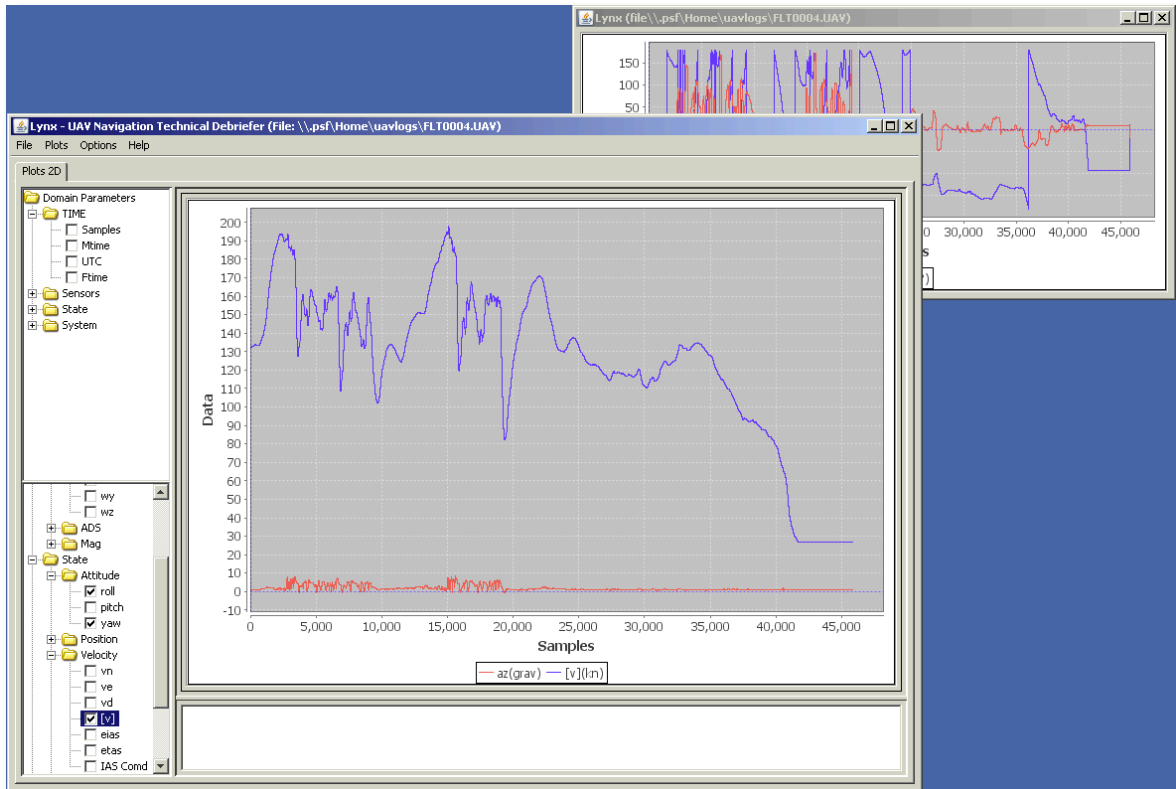

Figure 10
- For the next chart suppose your desire is to compare between acceleration on the Z-axis of the aircraft and velocity. As a result the chart on figure 10 appears: